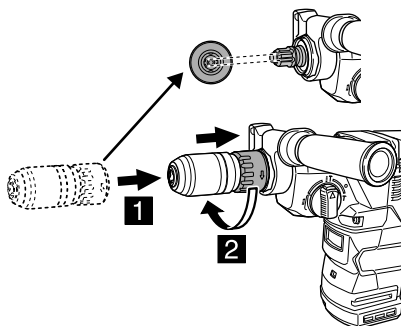

Fig. 20
- (1) Mesh the lock grip with spline.
- (2) Push in the lock grip, turning it in the arrow direction shown on the lock grip (**Fig. 20**).
- (3) To confirm that the lock grip is securely installed, tentatively try to pull out the lock grip.